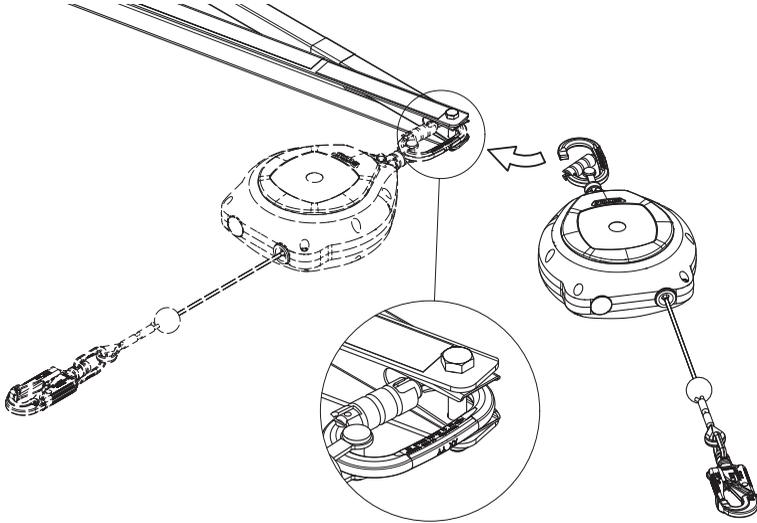

Figure 28. Attaching a 6,2m Falcon Fall Arrest Block
2. The next step is to connect the fall arrest block. Make sure that the component is correctly attached and secured to the SkyReach Anchor. Figure 28 is showing how the 6,2 m Falcon Fall Arrest Block is attached to the anchor point.